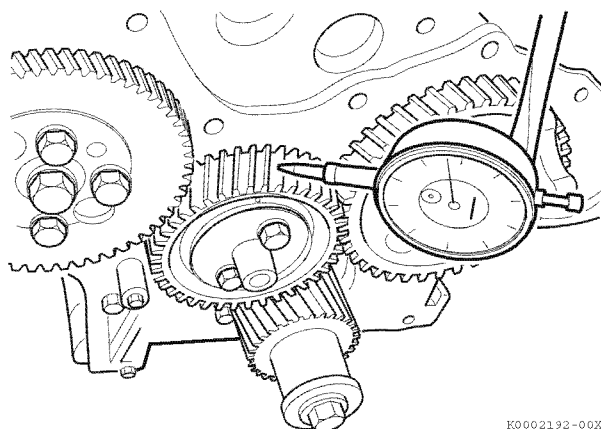

Figure 6-40
1. Install a dial indicator as shown in **Figure 6-40**.